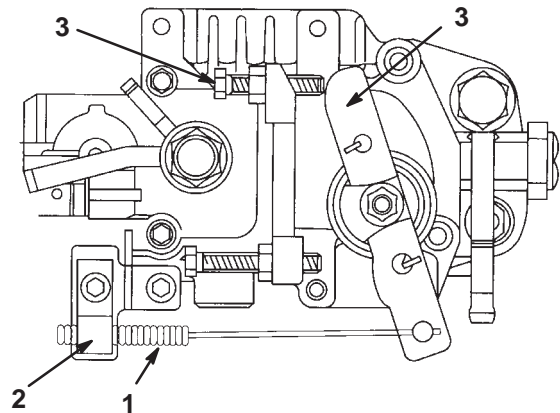

Figure 38
1. Move the remote throttle control lever to the Slow position (Fig. 38).
2. Loosen the cable clamp screw securing the cable to the engine (Fig. 38).
3. Move the cable until the speed control lever contacts the idle speed screw (Fig. 38).
2. Loosen the locknut on the idle speed screw (Fig. 38).